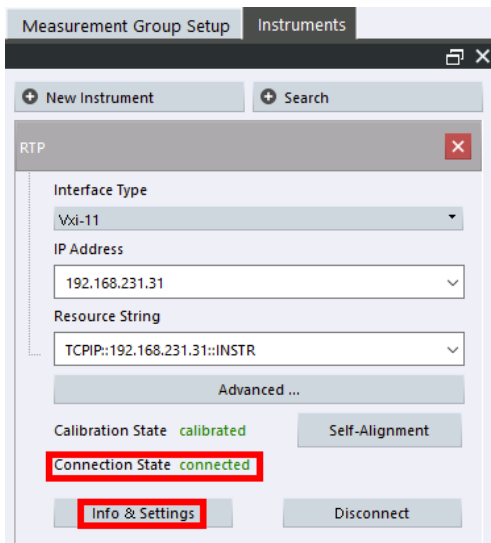

Fig. 3-8: Check status and setup the instrument
- As long as the connection to the instrument is established, the connection state of the instrument is changed to "connected". See Fig. 3-8.
- Press "Info & Settings" (see Fig. 3-8) to configure the instrument. Details are explained in Chapter 3.4.1.2